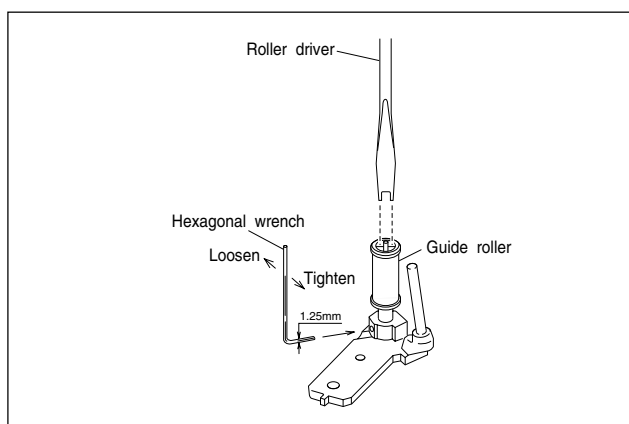

Fig. 2-5-1b
- (5) Using a hexagonal wrench, gently loosen the set screw at the bottom of the pole base assembly. (Be careful not to loosen it too much.) (See Fig. 2-5-1b.)
- (10) After completing adjustment, tighten the set screw at the bottom of the pole base assembly. (Be careful not to tighten it too much.) (See Fig. 2-5-1b.)